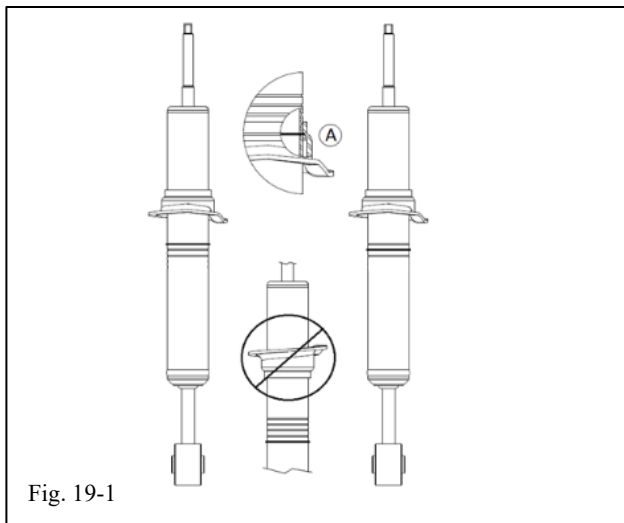

Fig. 19-1
- (a) Remove rubber band from TRD shock spring seat (Fig. 19-1).